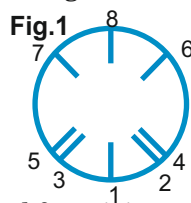

Fig.1
In the case of an unplanned concrete mixer stop with filled tank, set the steering wheel to position (1) Figure 1 and only then initiate motor start.